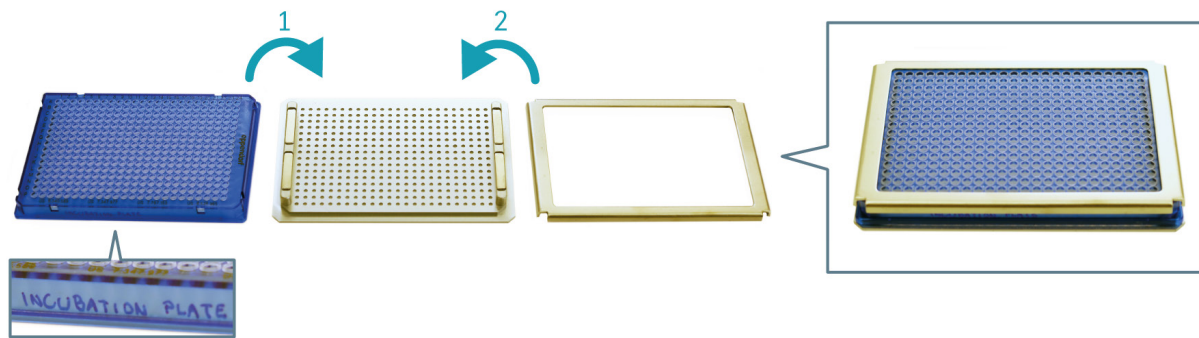

Figure 17. Magnetic clamp booster
1. Place the applicable plate in a magnetic clamp booster (Figure 17). Numbers and letters on the plate will not be visible in the magnetic clamp booster, so note which way the plate is turned.